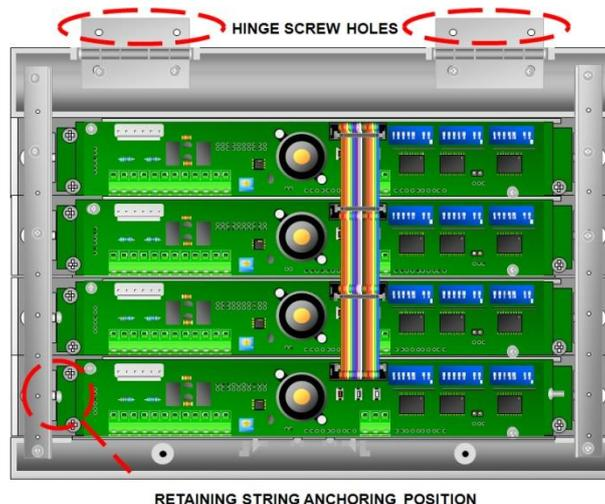

Figure 3.8 Inter-Module Connection Using JP1 connectors and 16-pin ribbon cables.
- JP1** **Inter-module Ribbon Cable Connector:** When the module is stacked together with other g-Smart Data Display Enhanced™ modules in a system, a ribbon cable can be used to connect the JP1 connectors of up to eight modules to share one DC power supply, e.g. only one of the modules needs to be connected to the power supply (see also Figure 3.8).